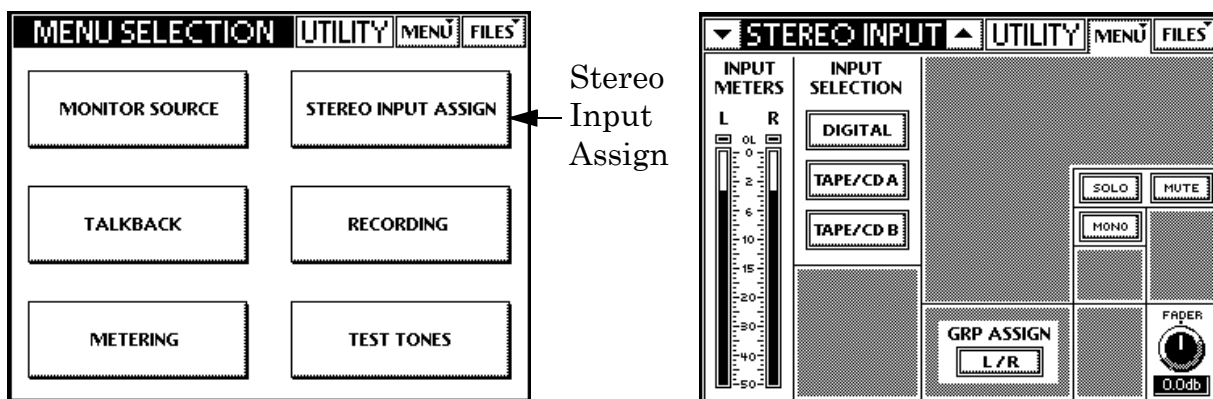

Figure 3-6 Stereo input assign
3. Touch **STEREO INPUT ASSIGN** on the Touchscreen (Figure 3-6).
4. Touch **TAPE/CD A** or **TAPE/CD B** in the INPUT SELECTION area (Figure 3-6).